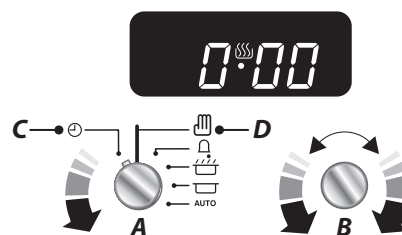

Fig. 3.1
2. To set the time, turn the **Timer (A)** knob to the **Clock (C)** setting and back to the **Manual (D)** position. The centre dot will flash indicating the time can be set. Turn the **Adjusting (B)** knob either clockwise or counter-clockwise (**Fig. 3.1**) to set the time.